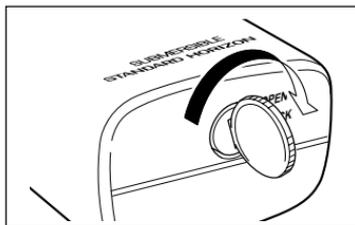

Figure 4. Battery Pack Installation
3. Install the battery pack on the transceiver. (see figure 4 and section 5.2)